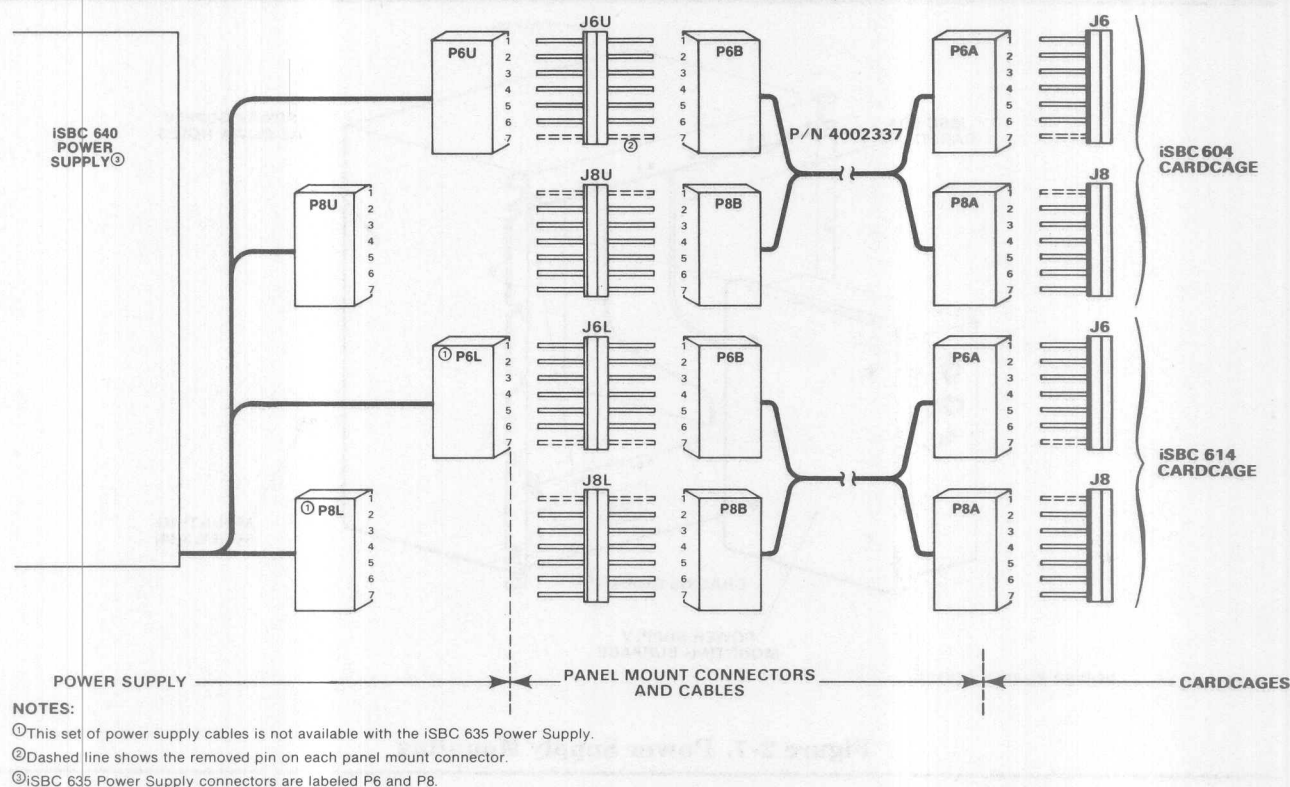

Figure 2-8. Power Connections at the Panel Mount Connectors
- 2) On each panel mount connector, cut off both sides of one of the outside pins, as the dashed lines show in figure 2-8.
- 5) Ensure that the panel mount connectors are seated securely, and install the cables between the panel mount connectors and the cardcages as shown in figure 2-8.
- 6) Connect the power supply output cables, one set with an iSBC 635 and two sets with an iSBC 640 Power Supply, to the panel mount connectors as shown in figure 2-8.